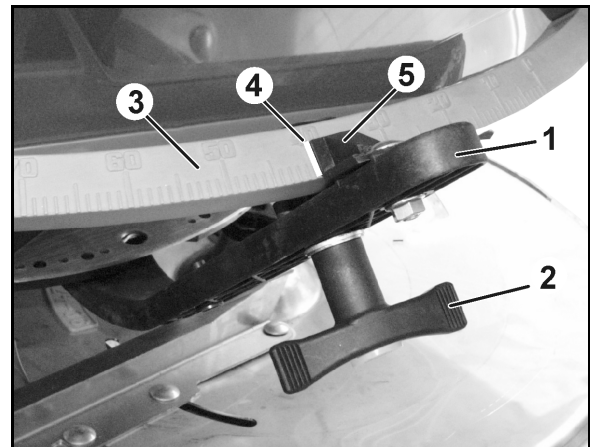

Fig. 51
2. Undo the butterfly nut (Fig. 51/2).
3. Look for the required slider position on the scale (Fig. 51/3).
4. Adjust the read-off edge (Fig. 51/4) of the setting lever pointer (Fig. 51/5) so that it corresponds to the scale value.
5. Retighten the wing nut (Fig. 51/2).